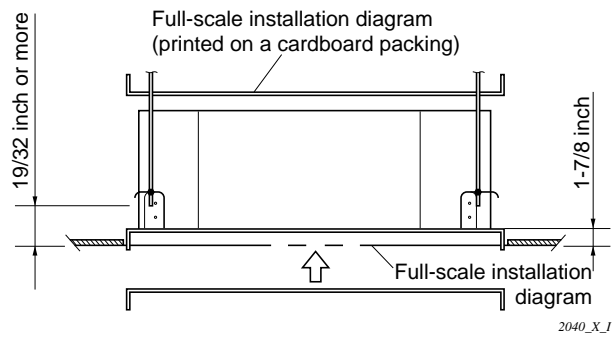

Fig. 3-4
- (1) When placing the unit inside the ceiling, determine the pitch of the suspension bolts using the supplied full-scale installation diagram. (Fig. 3-4) The size of the opening for the indoor unit can be confirmed by attaching the full-scale installation diagram beneath the unit. (Fig. 3-4) Tubing and wiring must be laid inside the ceiling when suspending the unit. If the ceiling is already constructed, lay the tubing and wiring into position for connection to the unit before placing the unit inside the ceiling.
- (2) The length of suspension bolt must be appropriate for a distance between the bottom of the bolt and the bottom of the ceiling of 19/32 in. or more as shown in Fig. 3-4.
- (4) Remove the protective cardboard used to protect the fan parts during transport.
- (5) Adjust the distance between the unit and surface of the ceiling. (1-7/8 in.) (Fig. 3-4)